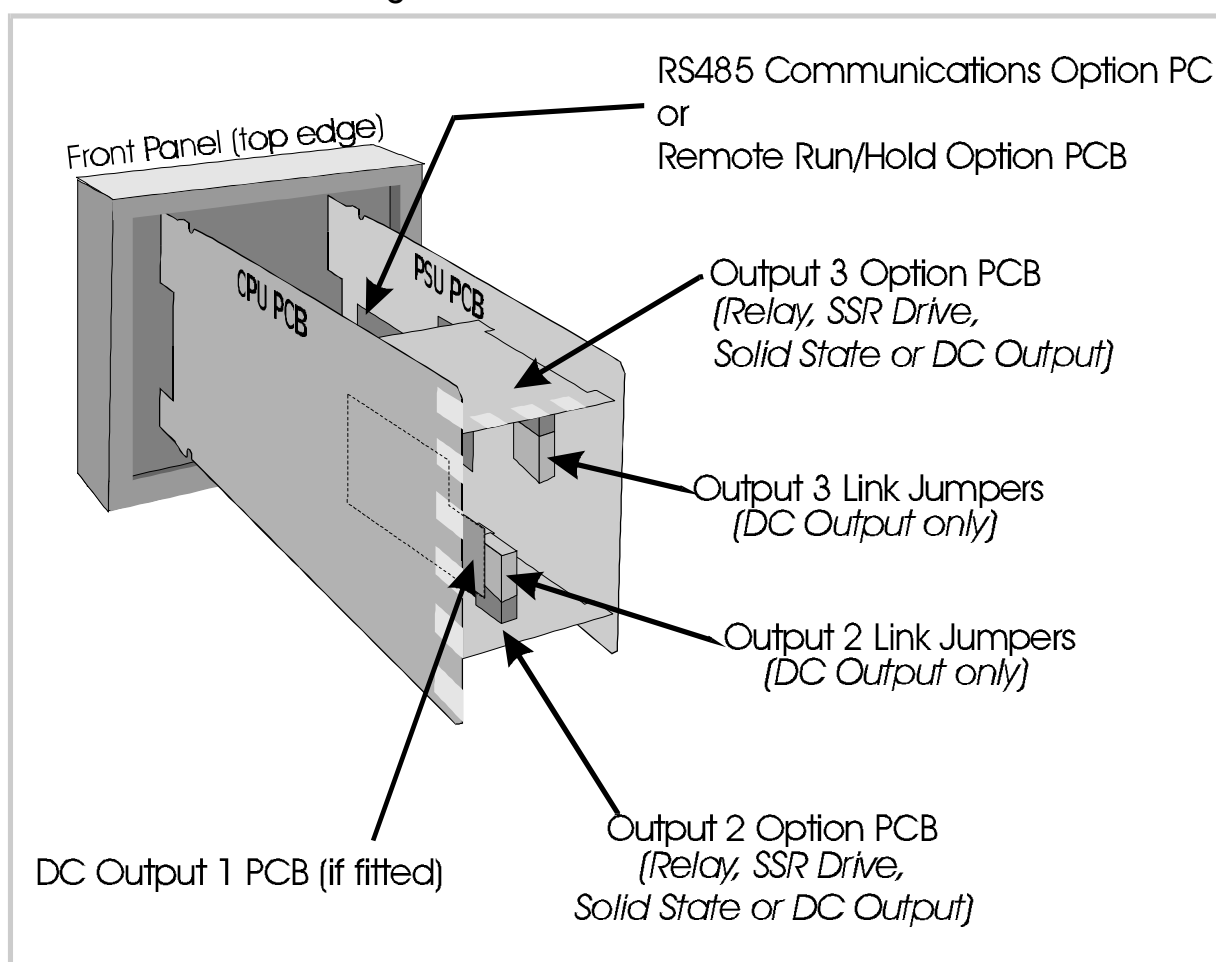
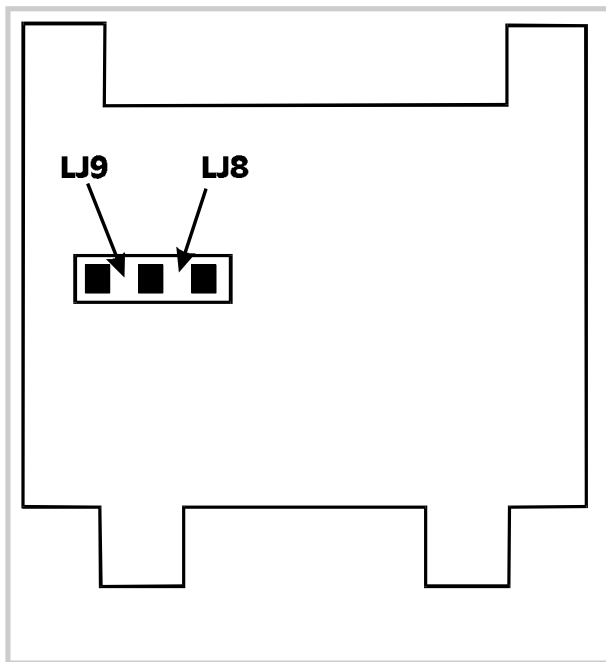

Figure 2-1 PCB Positions
Figure 2-6 DC Output Option PCB (Output 2/Output 3)
To withdraw the instrument from its housing, simply grip the side edges of the front panel (there is a finger grip on each edge) and pull the instrument forwards. This will release the instrument from its rear connectors in the housing and will give access to the instrument PCBs. Take note of the orientation of the instrument for subsequent replacement into the housing. The positions of the PCBs in the instrument are shown in Figure 2-1.
The type of output for Output 2 and Output 3 is determined by the Option PCB fitted in the appropriate position (see Figure 2-1) and, in the case of the DC Output Option PCB being fitted, the setting of Link Jumpers LJ8 and LJ9 on that Option PCB (see Figure 2-6 and Table 2-3). There are three types of option PCB which may be used for Output 2 and Output 3:
3. DC Output Option PCB (link jumpers as shown in Figure 2-6)